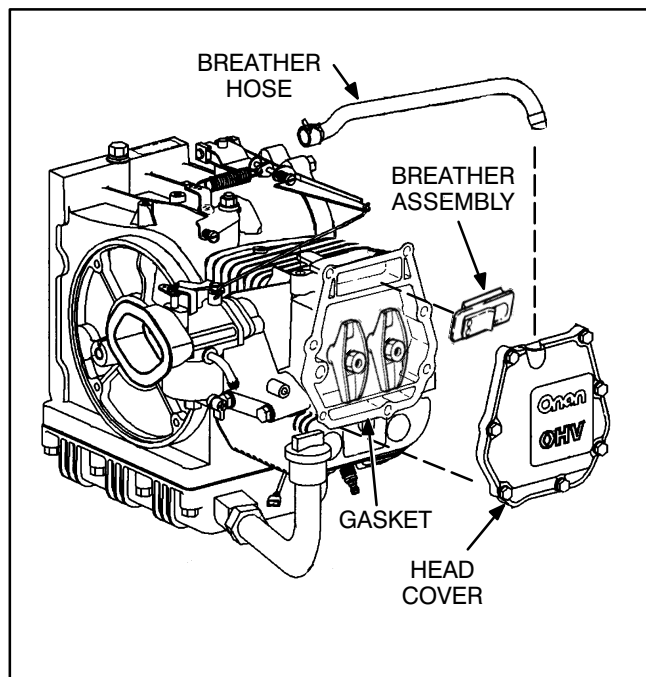

FIGURE 10-3. HEAD COVER REMOVAL
1. Remove the head cover mounting bolts and pull off the head cover (Figure 10-3).